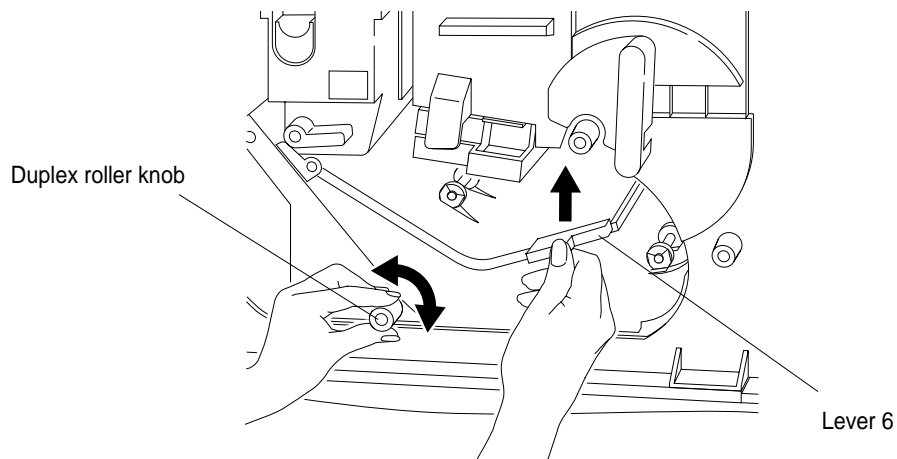

Figure 3-54 Freeing Duplex Jam
1. Open the door and locate lever 6 as shown in Figure 3-54.